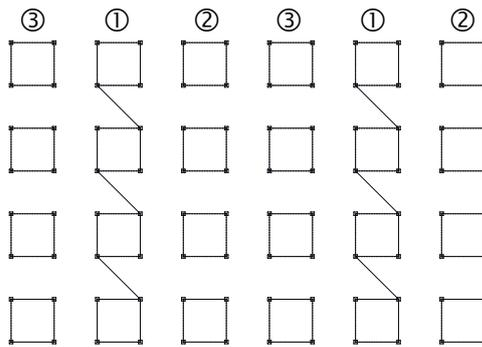

Fig. 18.3 Diagonal cross-braces for towers up to 6 m high
- Towers up to 6,00 m high require one diagonal cross-brace at height of 5,90 m (Fig. 18.3).